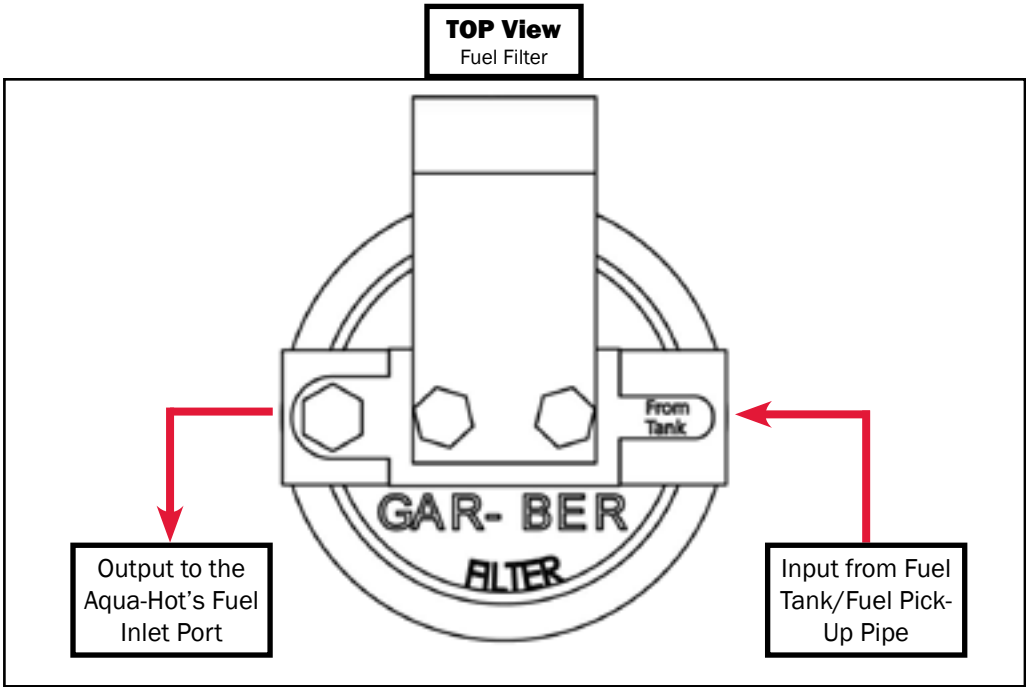

Figure 42
- Install and tighten the appropriate fuel fittings onto the Aqua-Hot's fuel ports, as well as the two ports of the fuel filter. Reference Figure 42 & 43.
- Cut the fuel line at the fuel filter mounting location and connect the fuel lines as illustrated in Figure 42.